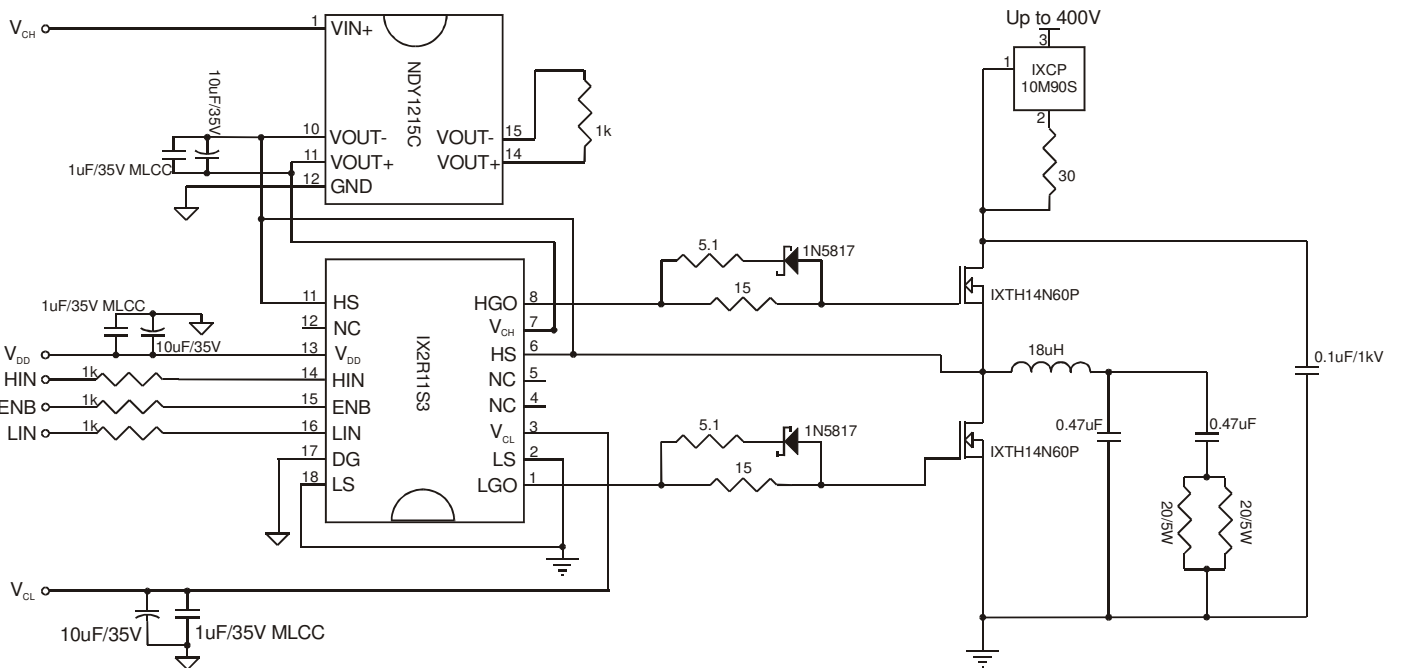
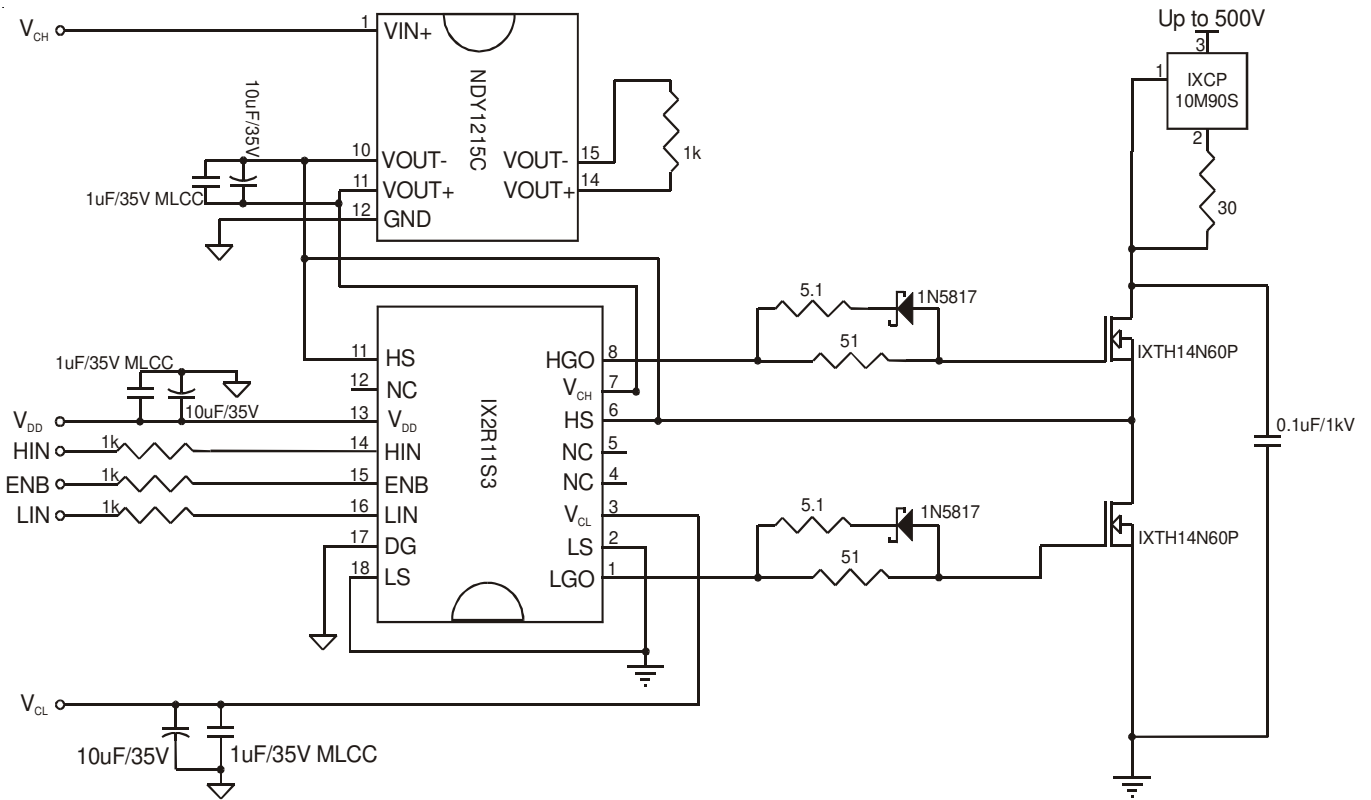

Figure 10. Test circuit for high frequency, 750kHz, operation.
Figure 11. Test circuit for low frequency, 75kHz, operation.
* Operational voltage rating of 500V determined in a typical half-bridge circuit configuration (refer to Figure 10 and Figure 11). Operational voltage in other circuit configurations may vary